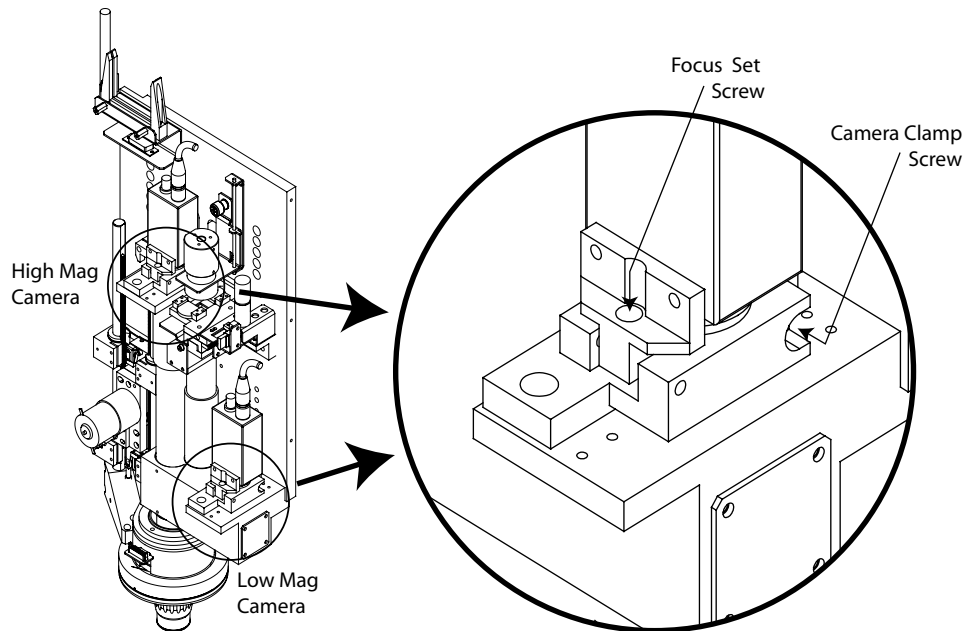

Figure 8-6 Camera Focus Adjustment
- c. Adjust the focus of the High Mag camera until best focus is achieved -- loosen the Camera Clamp, and adjust the Focus Set Screw as shown in Figure 8-6.
- e. Adjust the focus of the Low Mag camera until best focus is achieved -- loosen the camera clamp, and adjust the Focus Set Screw as shown in Figure 8-6. If necessary, find the two focus settings where the image goes out of focus; and set the focus adjustment mid-way between them.